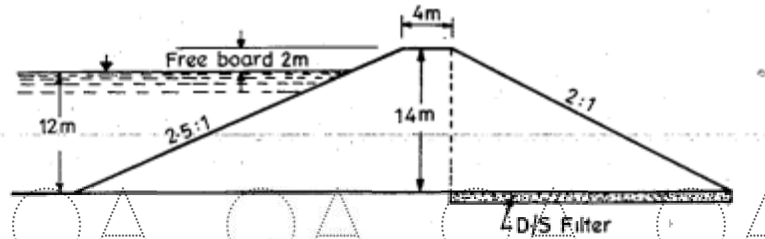

Figure 2
- b) A section of a homogeneous earth dam is shown in Figure 2. Calculate the seepage discharge per meter length, through the body of the dam. The coefficient of permeability of the dam material may be taken as 8×10^{-5} m/sec. [5+5]